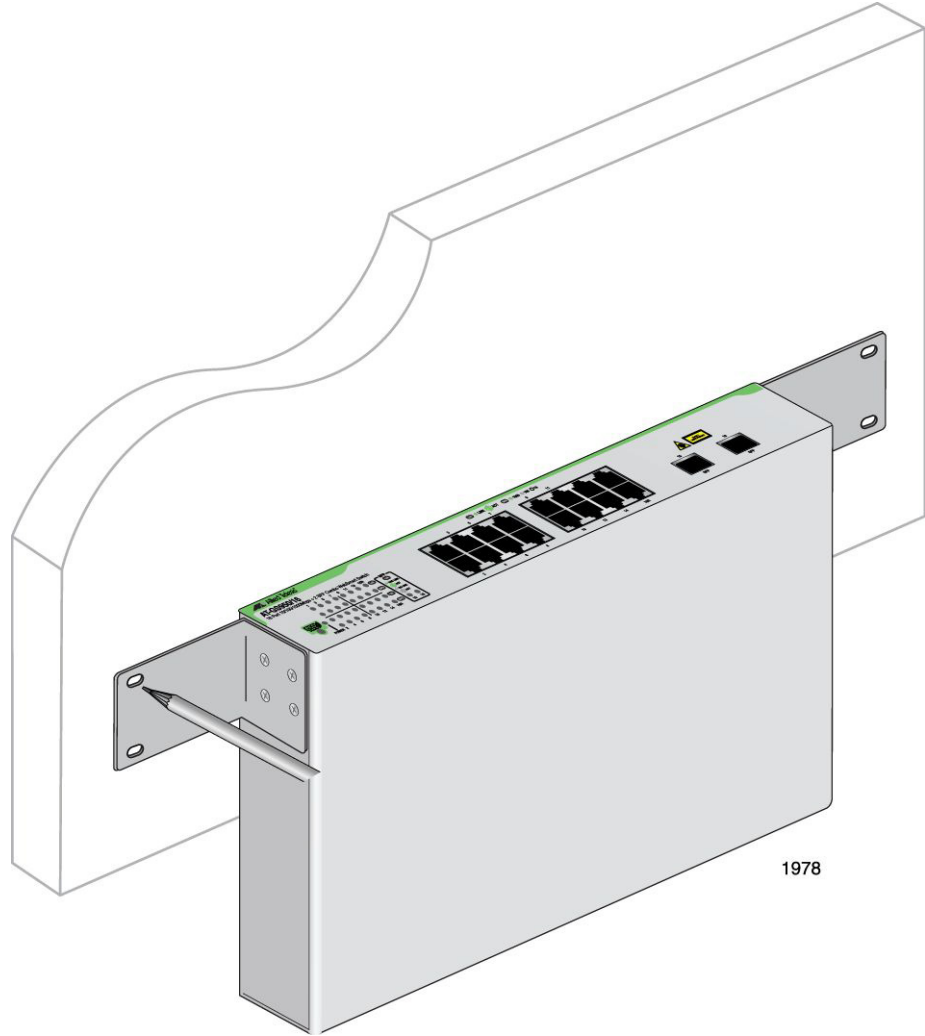

Figure 24. Marking the Screw Hole Locations
4. Have another person hold the switch at the wall location where the switch is to be installed, while you use a pencil or pen to mark the wall with the locations of the four holes in the brackets. The switch should be oriented such that its front faceplate is facing up and is level to the floor. See Figure 24 on page 40.